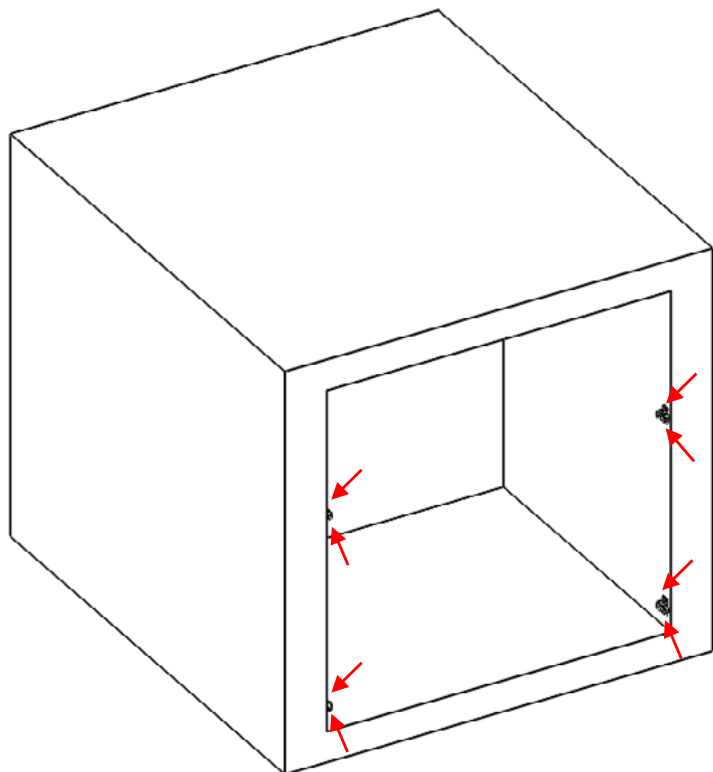

Figure 8
4. Next, slide the outer trim into the cabinet cutout and use a marker or pencil to mark where the buckles line up. Then, remove the trim and secure the four buckle seats into the cabinet using the other eight #2 screws (see *Figure 8*). Make sure the clamp of the bucket seats are facing toward you (see *Figure 9*).